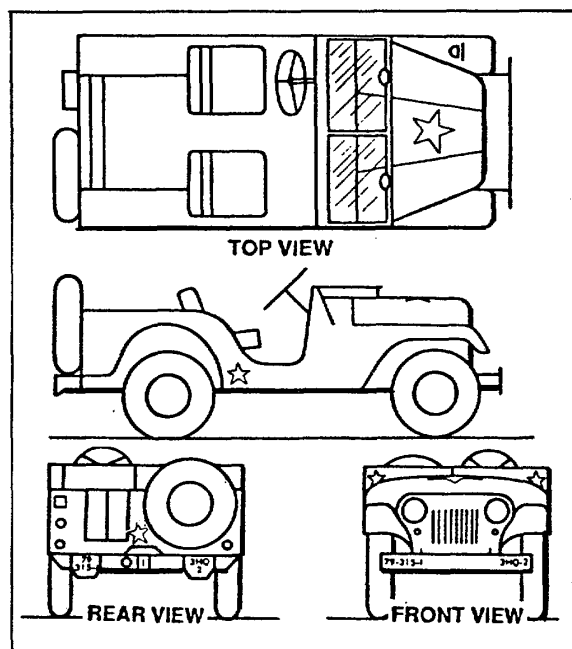

Figure 2. Marking location for 1/4-ton trucks.
b. The star will be applied to front and rear of vehicles/equipment as specified in Appendix C. On the rear of wheeled vehicles, the star may be centered on the tailgate, Figure 2.
b. The unit identification markings will normally appear on both the front and rear of each vehicle. Suitable surfaces (bumperette, tailgates, fenders, rear and front) may be used provided the unit identification marking does not conflict with the location and legibility of other markings. Where no suitable surface is available at the front or rear, the markings will be applied in an appropriate location on each side of the vehicle. If necessary, the unit identification may be applied to the vehicle mounted equipment. Refer to Figures 2 through 13.